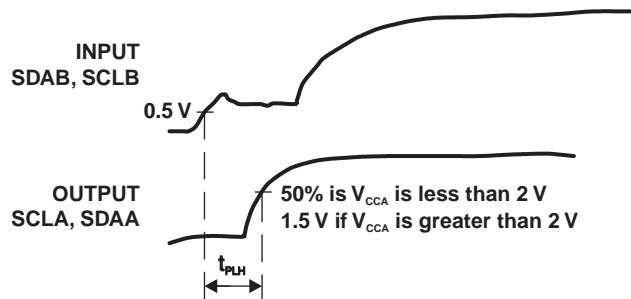

Figure 4. Waveform 3
| t PLZ | Propagation delay | SDAB, SCLB (2)(see Figure 4) | SDAA, SCLA (2)(see Figure 4) |   | 100   | 169                | 255               | ns   |    |